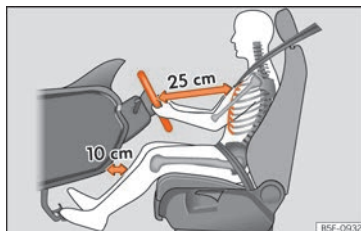

Fig. 2 The correct distance between the driver and the steering wheel must be at least 25 cm (10 inches).
- Adjust the steering wheel so that it is at a distance of at least 25 cm (10 inches) from the sternum »» Fig. 2 and can hold it with both hands on the sides, on the outside, with the arms slightly flexed.
slightly bent and there is a distance between the knee area and the instrument panel of at least 10 cm (4 inches) »» Fig. 2.